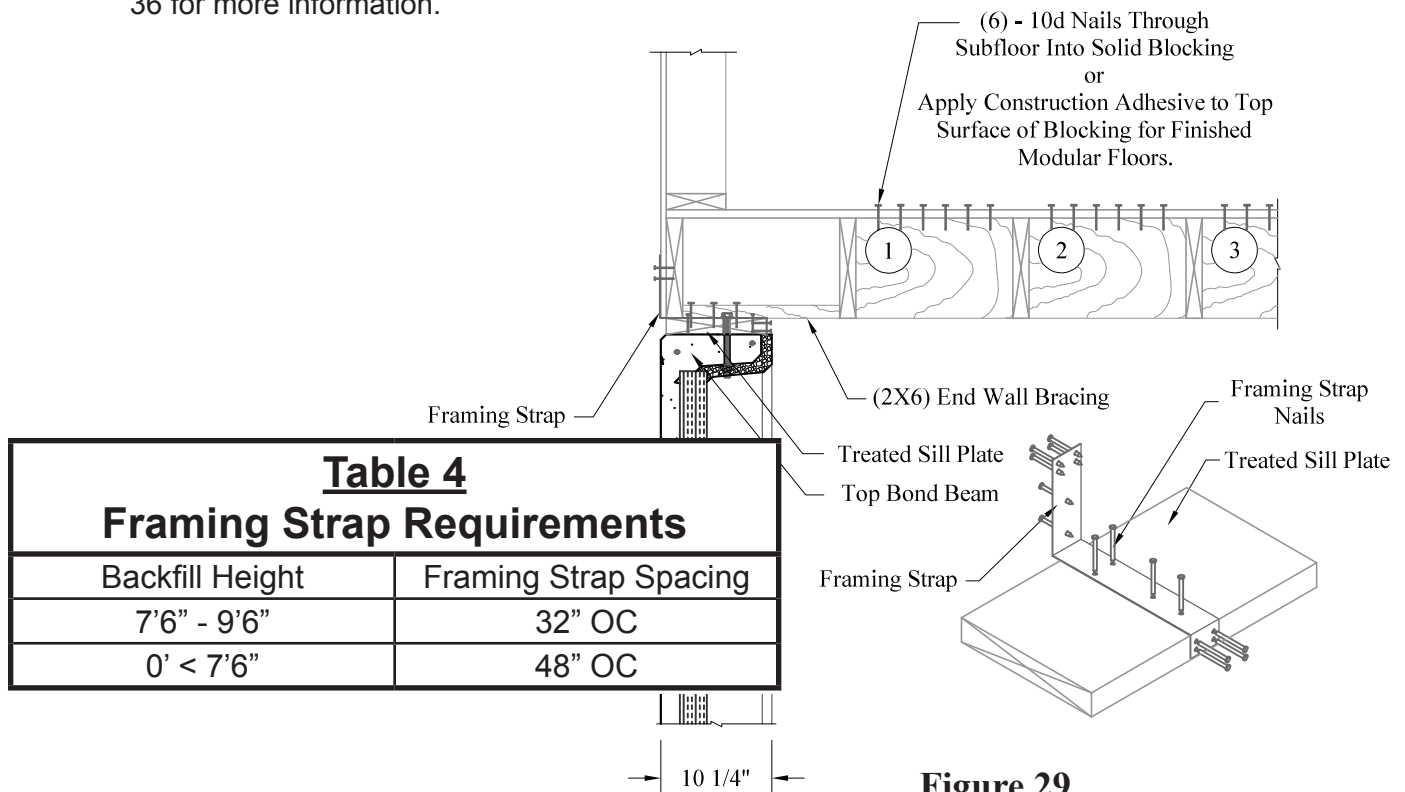

Figure 29
- Add Solid Blocking per Table 3 on page 27, as shown below in Figure 29.